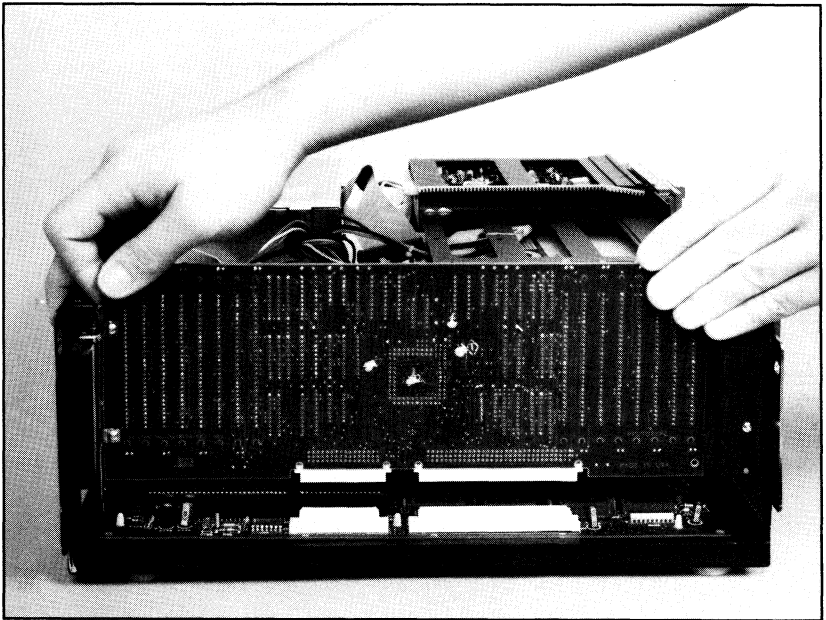

Figure 2-3. Removing the Memory Card
2. Locate the memory card. Remove the memory card by removing the retaining screws holding the card to the expansion slot bracket and the motherboard, and pulling straight up on the card (Figure 2-3).